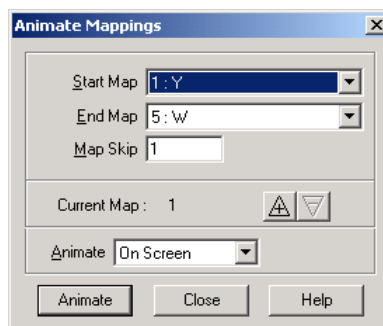

Figure 29-5. The Animate Mappings dialog.
1. From the Tools menu, choose Animate, then choose Mappings. The Animate Mappings dialog appears, as shown in Figure 29-5.